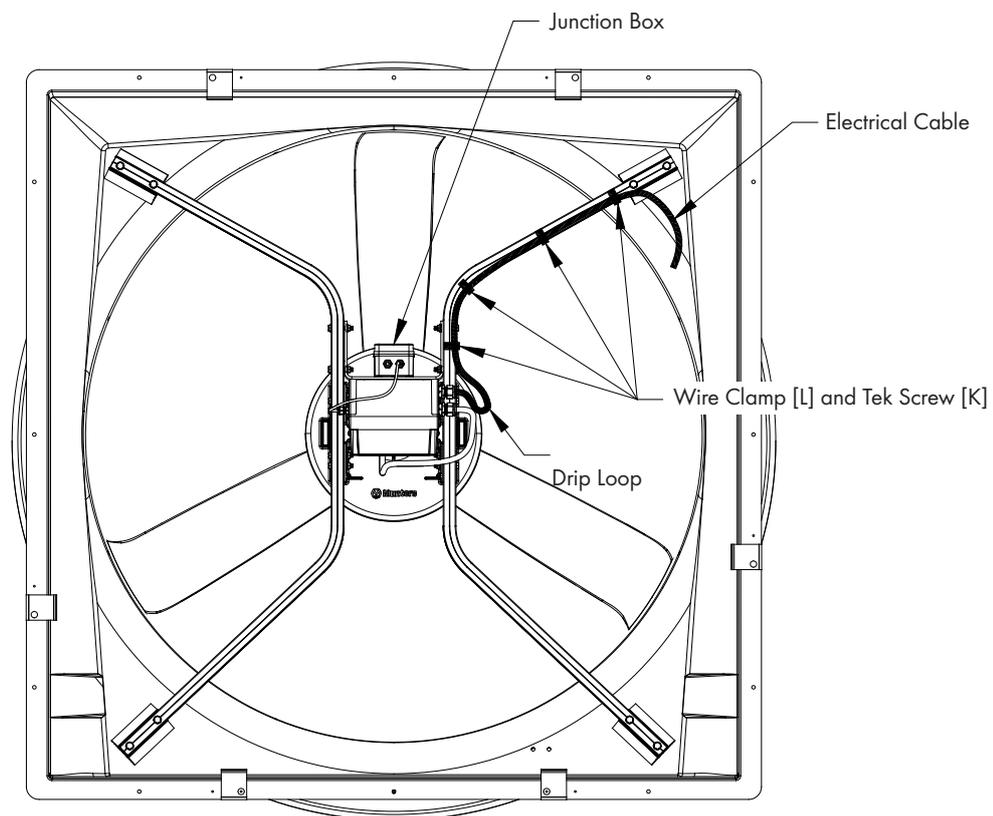

Figure 13A
The Munters Drive Retrofit Kit comes with a coil of electrical cable that is pre-wired to motor. Determine where the existing power for the fan entered the housing and route the cable up the left or right strut toward the existing power. Create a drip loop in the bottom of the cable and then fasten it to the strut using (3) wire clamps [L] and TEK screws [K]. Attach the new cable to the existing power supply for the fan. See Figure 13A & 13B. Continue on next page.